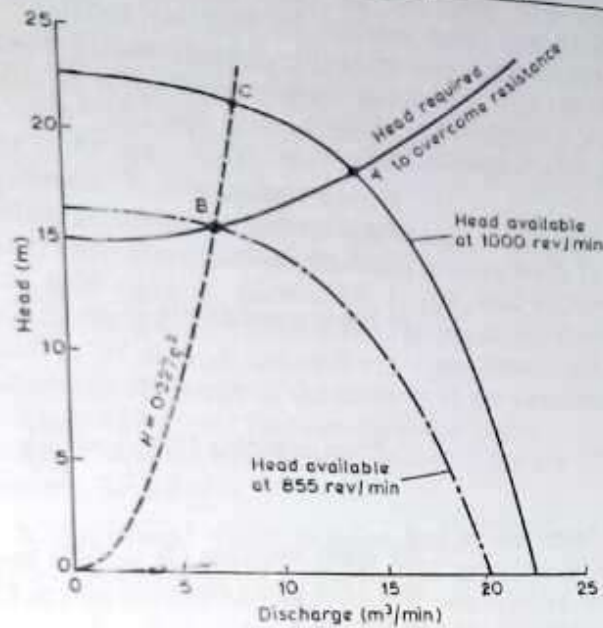

Figure 14.4
These are plotted in Fig. 14.4 from which the operating point of the system will be at the point A at which
From Fig. 14.4
By using equation (1) and (2) to scale down the original values of H and q the pump characteristic at 855 rev/min could be plotted as shown in Fig. 14.4.